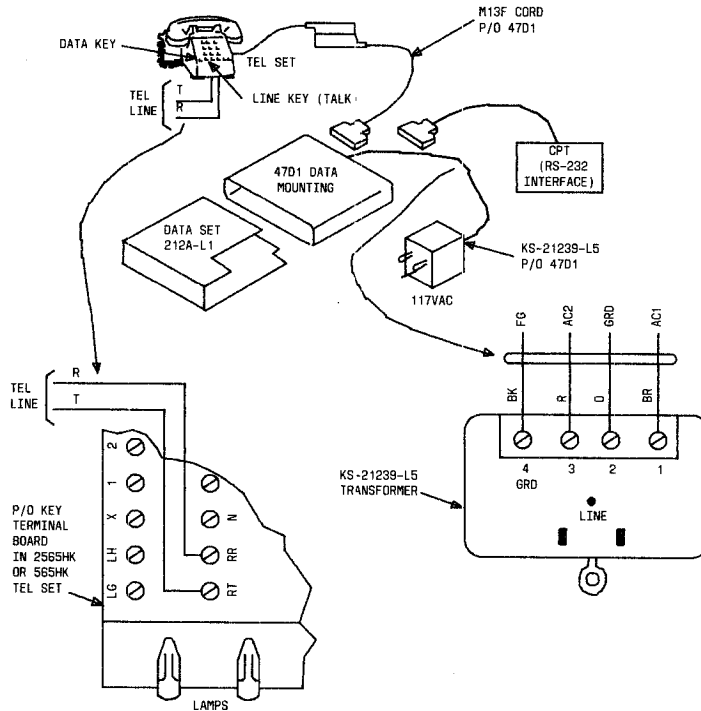
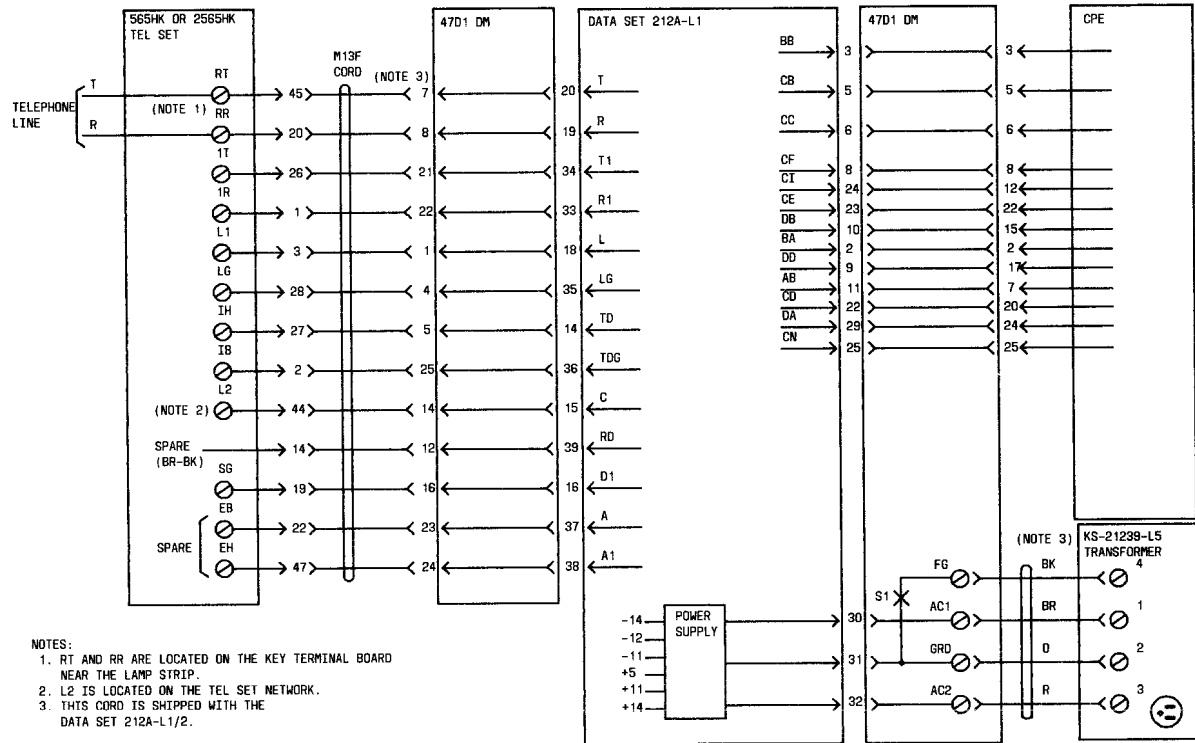

Fig. 4—Installation of DS 212A-L1/2 Without an ACU
Fig. 5—Connection Wiring for DS 212A-L1/2 Without an ACU
**4.04 DS 212A-L1A/2A Without Automatic Calling Unit (ACU):** When a single DS 212A-L1A/2A is installed without an ACU, connect cables and connect tip and ring as shown in Fig. 4. Figure 5 provides detailed wiring which may be useful in troubleshooting this arrangement.